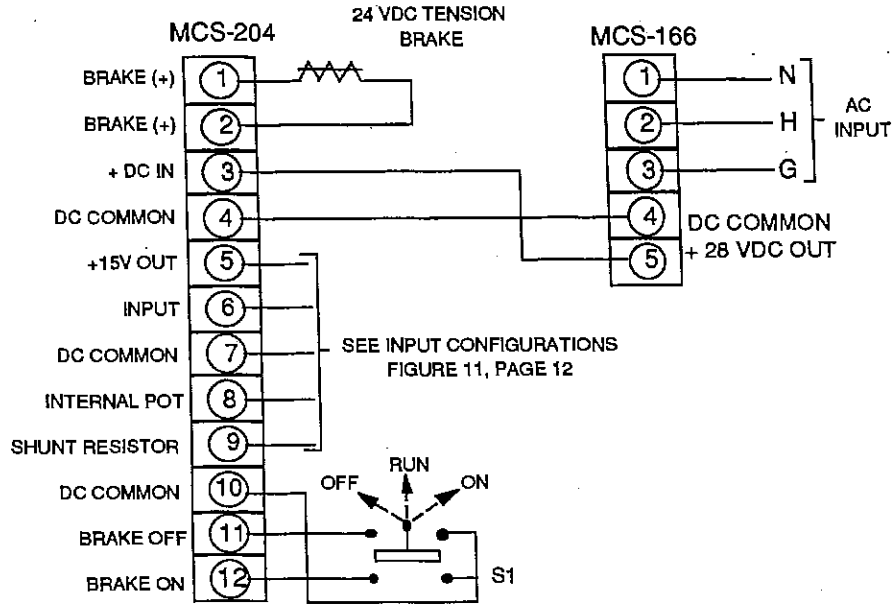

Figure 9 MCS 166/MCS - 204 Wiring - single brake
Refer to Figures 9, 10, 11, 12, pages 11 & 12, for actual wiring connections.
**NOTE:** If only a single brake-off function is used, an SPST maintained contact switch may be used. If both functions are used, a three position switch is recommended, as shown in Figure 9 and 10, page 11.
- ❑ 6. Double check all wiring connections per Figures 9, 10, 11, or 12 for accuracy and tightness.
- ❑ 7. Reconnect the front housings if either wall or shelf mounting is used. Secure the latches. If shelf mounting is used, secure the housings with the four (4) bolts for each section.